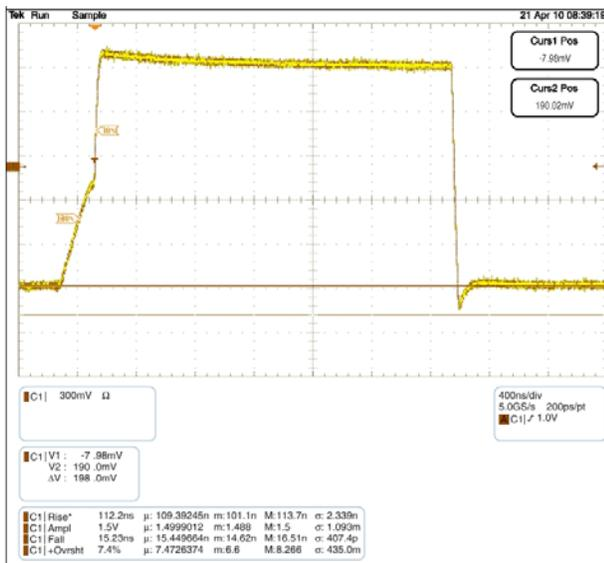

Figure 9. Hybrid Driver Scope Shot 600 pF||2.2 kΩ Hybrid Architecture and Push-Pull
Due to I²C's open-drain topology, I²C masters and slaves are not push/pull drivers. Logic LOWs are "pulled down" (I_{sink}), while logic HIGHs are "let go" (3-state). For example, when the master lets go of SCL (SCL always comes from the master), the rise time of SCL is largely determined by the RC time constant, where $R = R_{PU}$ and $C =$ the bus capacitance. If the FXMA2102 is attached to the master [on the A port] in this example, and there is a slave on the B port, the Npassgates act as a low resistive short between both ports until either of the port's $V_{CC}/2$ thresholds are reached. After the RC time constant has reached the $V_{CC}/2$ threshold of either port, the port's edge detector triggers both dynamic drivers to drive their respective ports in the LOW-to-HIGH (LH) direction, accelerating the rising edge. The resulting rise time resembles the scope shot in Figure 9. Effectively, two distinct slew rates appear in rise time. The first slew rate
The auto-direction hybrid driver architecture is designed to drive a minimum of 400 pF. 400 pF is the maximum capacitance of an I²C segment. The FXMA2102 scope shot of Figure 9 reflects a (30% - 70%) rise time of 112ns, with a 600 pF lumped load and a 2.2 k Ω external pull-up resistor. According to the I²C specification, the maximum rise time in Fast Mode (400KHz) is 300ns, so the FXMA2102 is a strong choice for the I²C application. *For more information about the FXMA2102 I²C translator, please see application note AN-9718.*